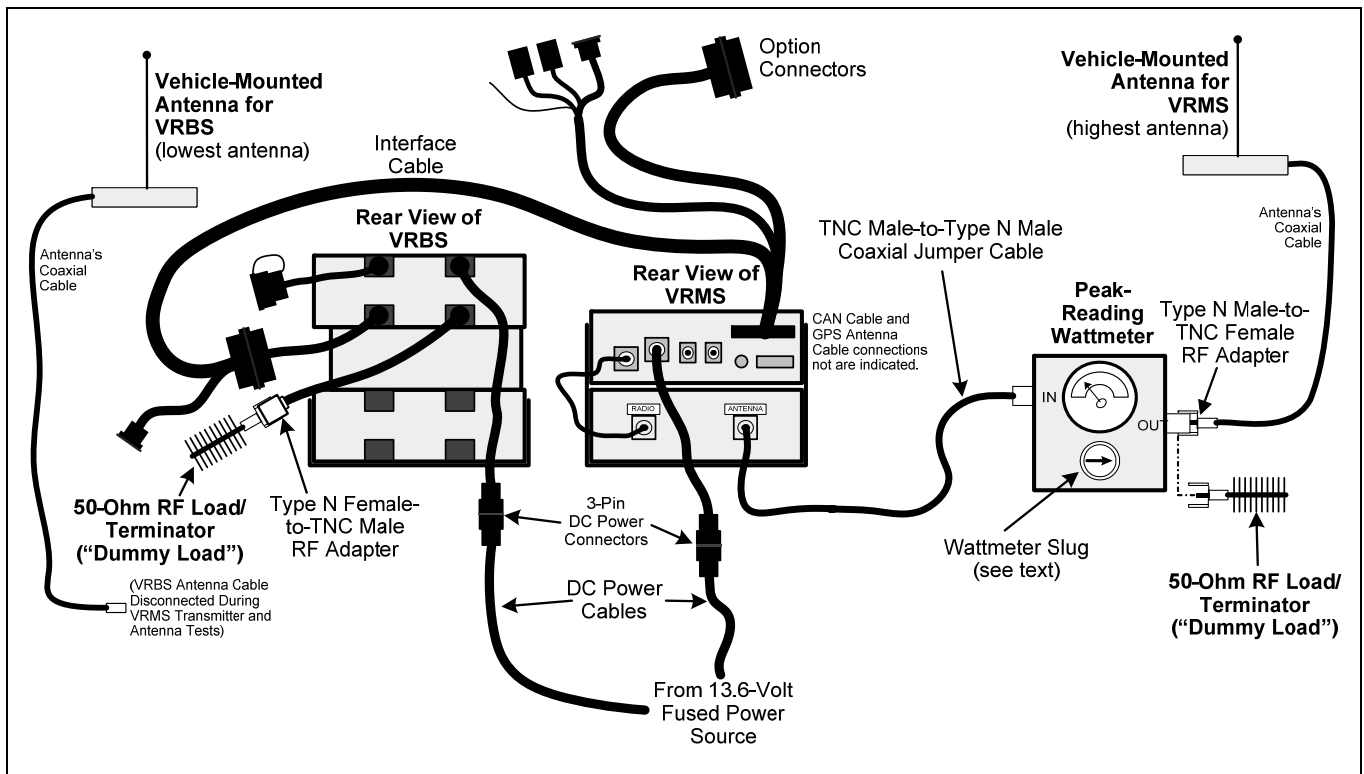

Figure 16-1: Wattmeter Connections for VRMS7010 Antenna Tests
2. Using the Type N male to TNC male coaxial jumper cable, connect the antenna connector on the rear of the 800 MHz bandpass filter (connector labeled "ANTENNA") to the wattmeter's input connector. Refer to Figure 16-1 as necessary.
5. Connect the other 50-ohm RF load/terminator to the VRBS7010. Use the Type N female to TNC male RF adapter. Refer to Figure 16-1 as necessary.
3. Connect the cable from the vehicle-mounted VRMS7010 antenna (cable labeled "VRMS7010 Antenna") to the wattmeter's output connector, as shown in Figure 16-1.